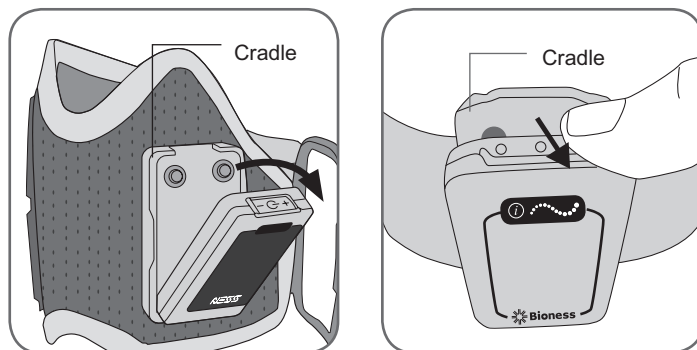

Figure 9-18: Removing the RF Stim Units.
2. Pull the top of the RF Stim Unit away from the cradle. See Figure 9-18.